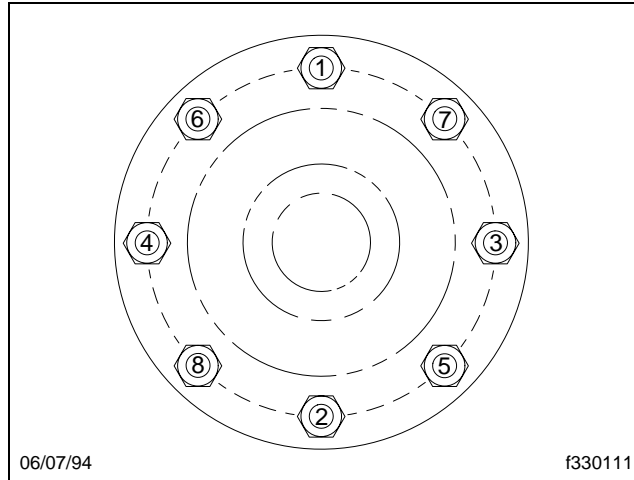

Fig. 8, Tightening Sequence, Drive Axle Stud Nuts
18. If needed, install the tapered dowels and washers on the drive axle studs. Install the drive axle stud nuts. Using the sequence shown in **Fig. 8**, tighten the nuts to the torque values given in **Table 5**.